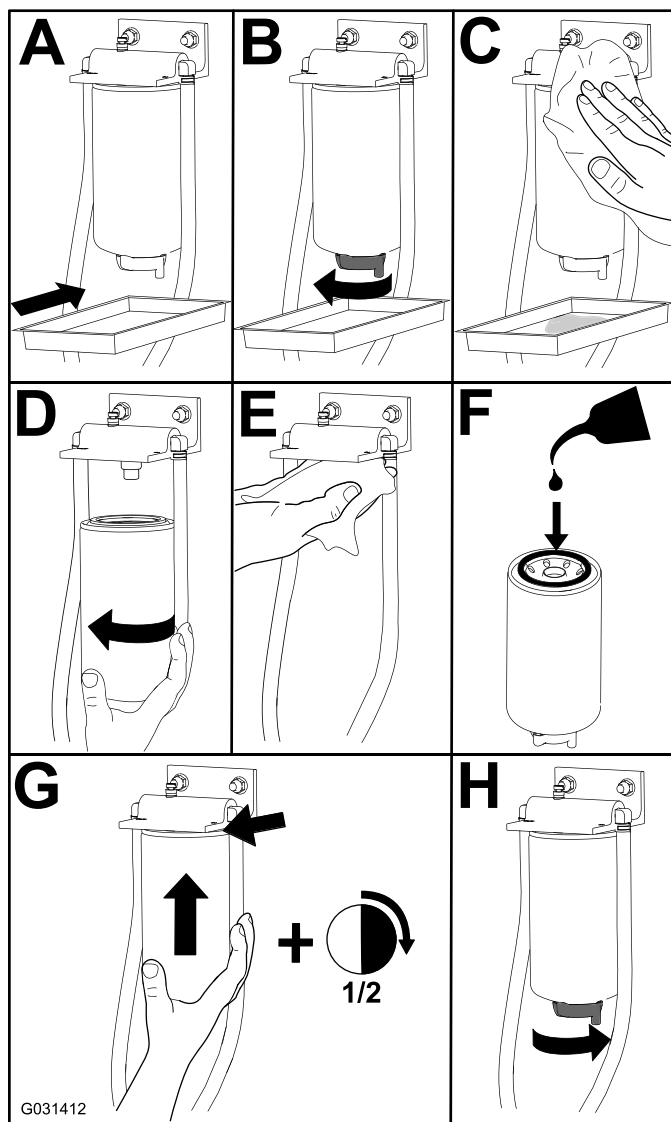

Figure 54
1. Replace the filter as shown in Figure 54.